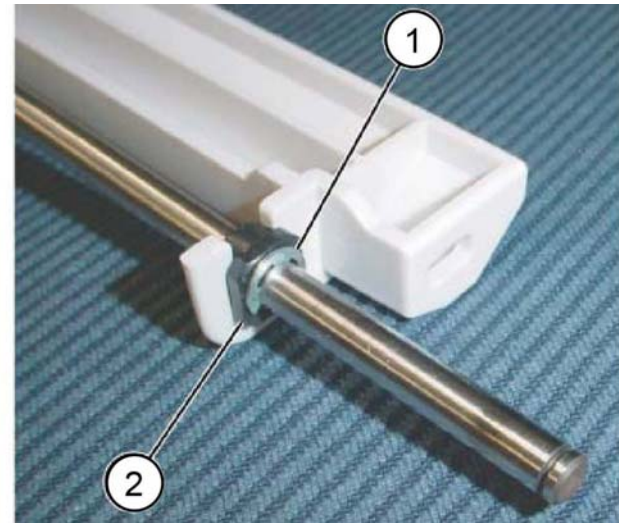

Figure 6 Bearing removal
8. Remove the bearing, Figure 6:
- Remove the E-clip (1).
- Remove the bearing (2).